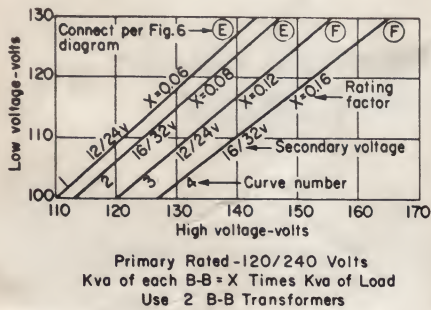

Fig. 4. Three-phase open delta operation (100-165 volts)
STEP 3. Check the secondary voltage of each individual B-B transformer by referring to Fig. 4 or 5.